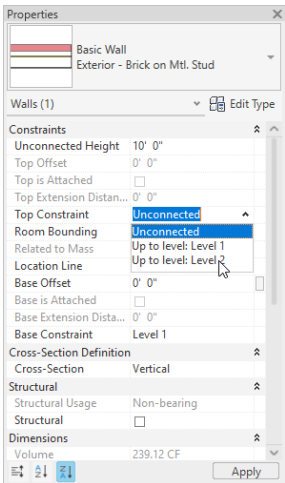

Figure 3-30 Setting the **Top Constraint** parameter using the **Properties** palette
1. In the **Properties** palette, ensure that the **Location Line** parameter has **Wall Centerline** as the default value. Click on the column adjacent to the **Top Constraint** instance parameter; a drop-down list is displayed. Select **Up to level:** **Level 2** from this drop-down list, and choose the **Apply** button, as shown in Figure 3-30.